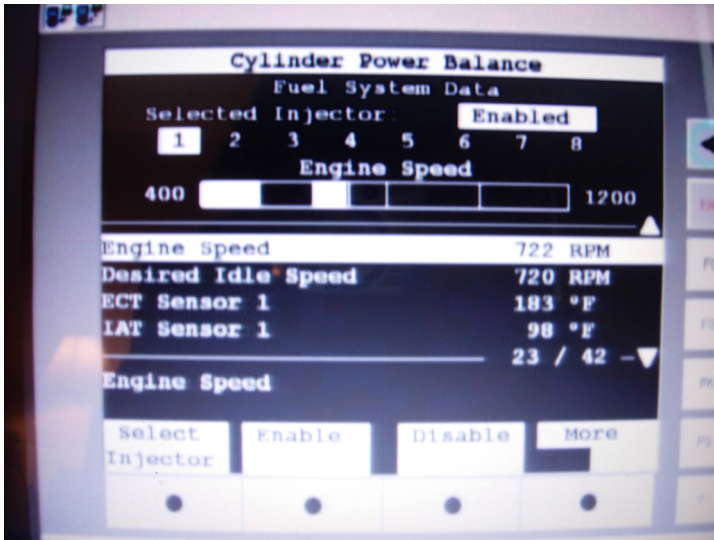

Figure 84 Power Balance Test Screen (Disc 2 Photo)
- Press F0 for CYLINDER POWER BALANCE TEST and follow the Tech 2 instructions to perform the test (Figure 84).